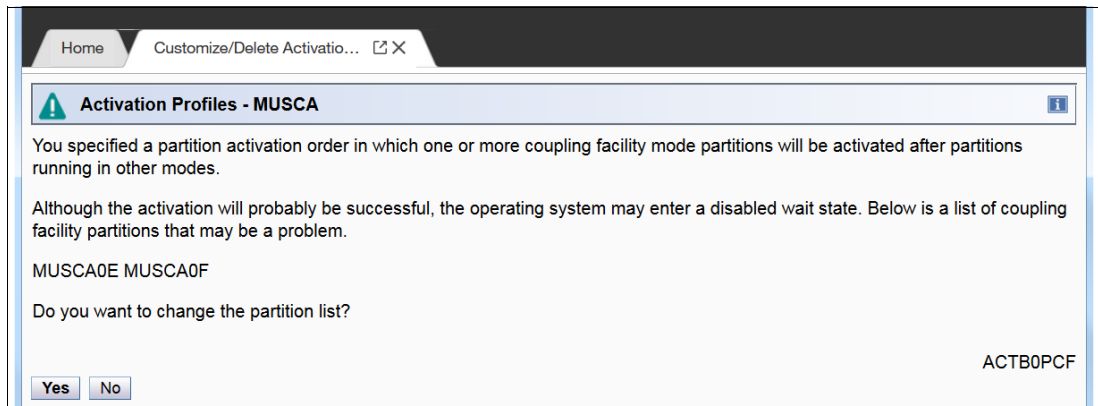

Figure 5-22 Reset and Image profile list: Coupling Facility LPAR verification
3. If any Coupling Facility partitions are defined, HMC asks if you want to change the partition activation order because it is preferential but not essential that CF LPARs are activated before z/OS LPARs. Click **Yes** or **No** (see Figure 5-22).